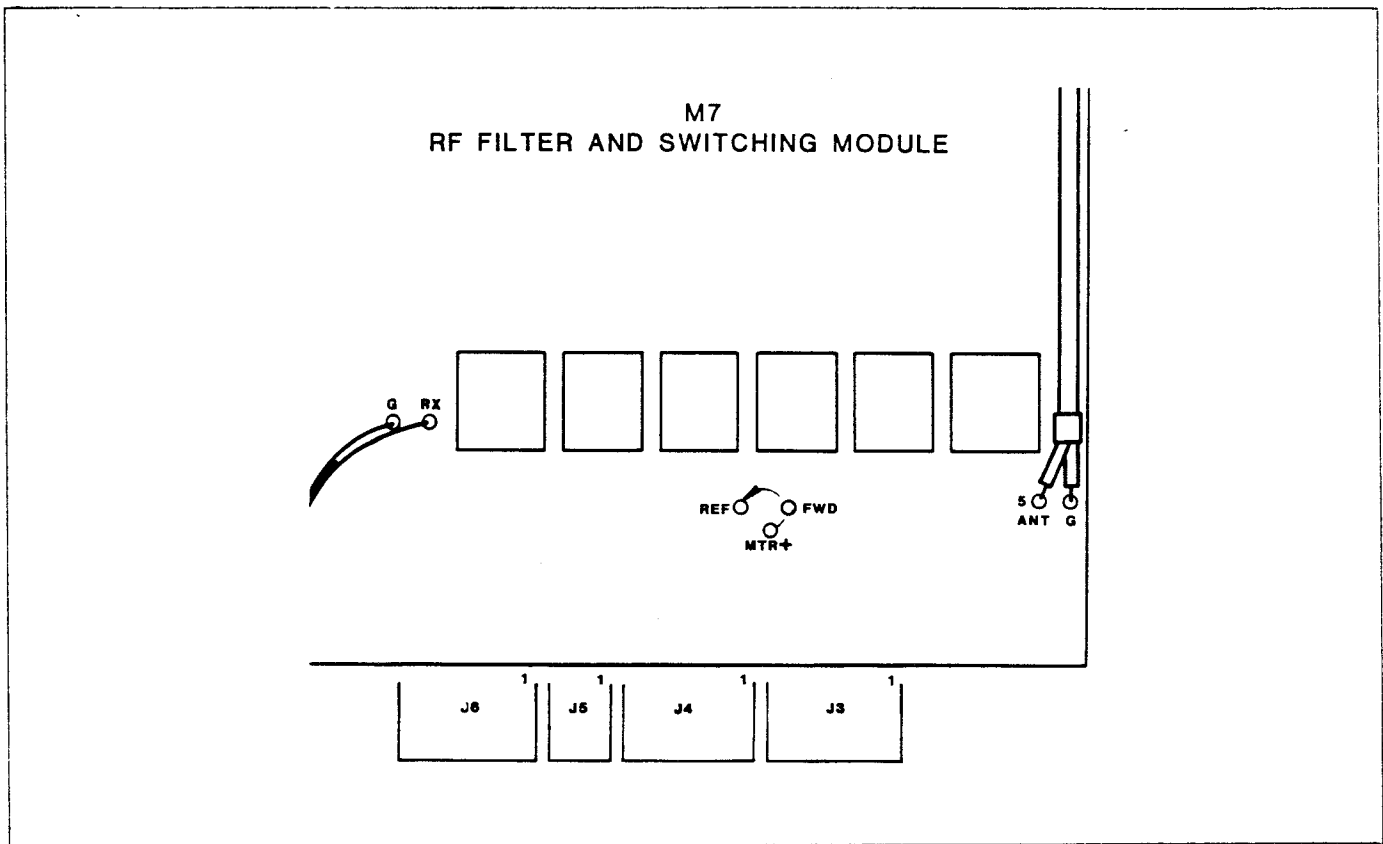

FIGURE 5-5. Front Panel Meter Connection
2. The internal VSWR bridge can be connected as shown in Figure 5-5. It should be noted that the meter is not calibrated and is used as a null indicator. The antenna should be adjusted for minimum reading on the meter. A meter reading of less than 1 division on the scale is required for correct operation. It is recommended that an external VSWR meter is used for more exact measurements of the antenna matching.